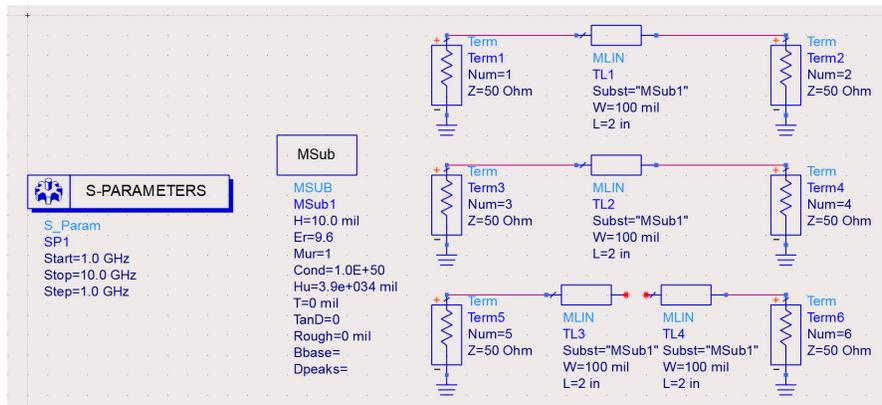

Figure 3: Schematic for the TRL design
- After finishing the design for a TRL standard set, your final schematic should be similar to Figure 3. Again, the values in the example are **NOT** for your reference.